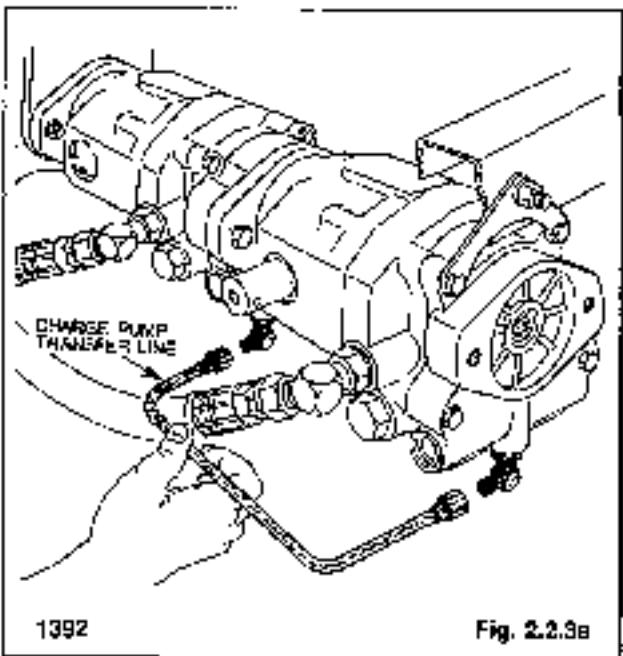

Fig. 2.2.3e
8. Disconnect and remove the charge pump transfer line between the front and rear hydrostatic pump (fig. 2.2.3e). Cap the line and plug both transfer ports.